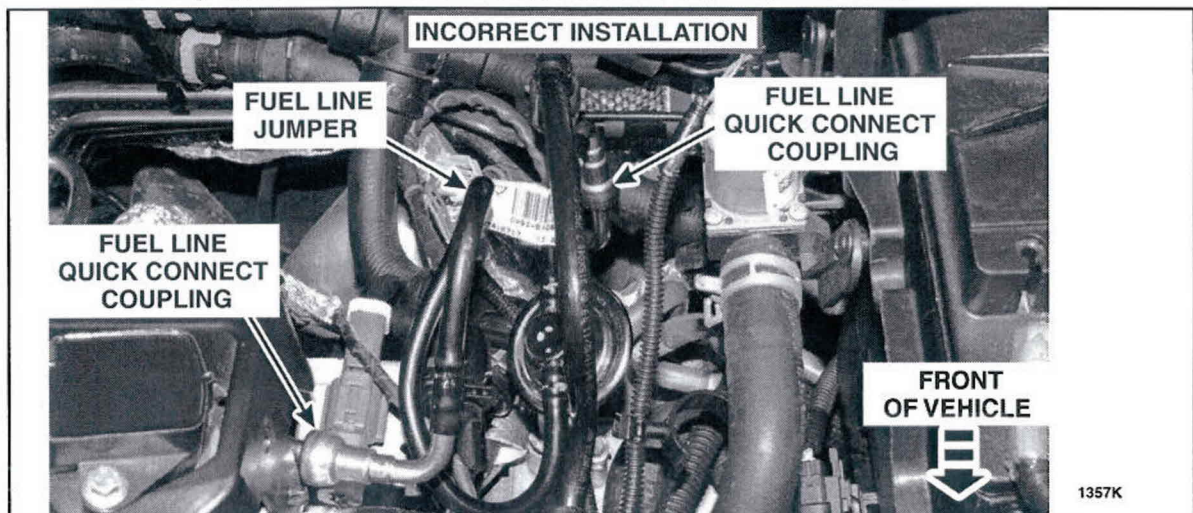

FIGURE 8
8. Remove and discard the fuel line jumper. See Figure 8.